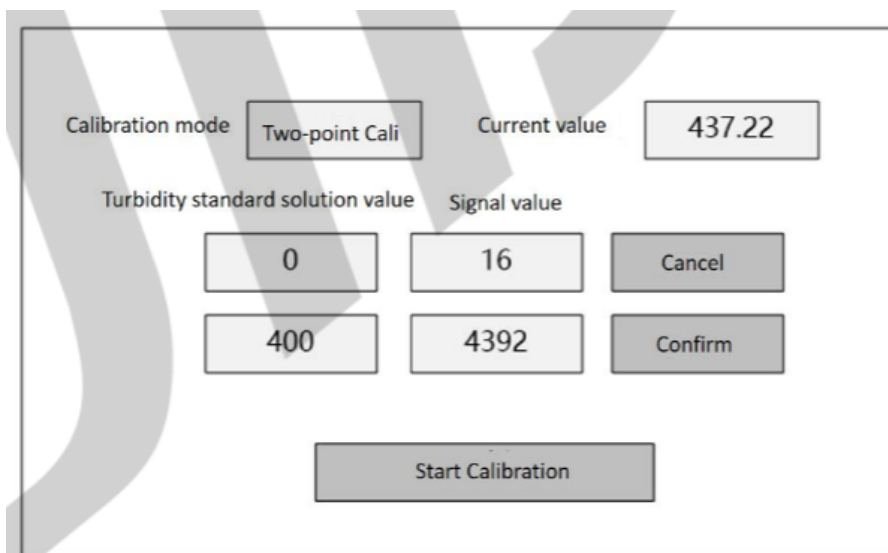

Figure 4-1: Calibration surface
- Next, click on "**Calibration**" to open the calibration interface, as shown in **Figure 4-1**.